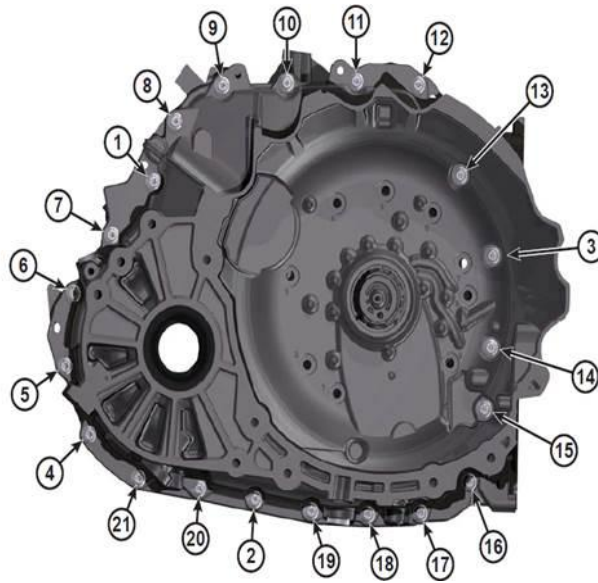

Fig. 24 Transmission Case Bolt Torque Sequence
59. Torque all remaining bellhousing to transmission case bolts, in sequence, to 29 Nm (21 Ft Lbs). See (Fig. 24).